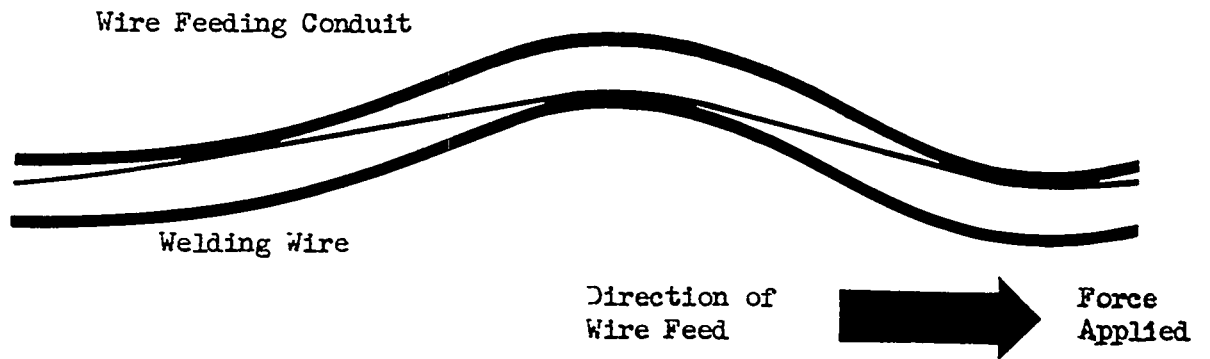

FIGURE 2
- (2) Pull Only Wire Feed System - Figure 2. These units pull the wire off a spool, through a feed conduit, and then push it through a very short gun tube. The major advantage of this system is that the axial load on the wire is a tensile rather than a compressive load as in a push only system. The wire pulling mechanism (motor, gear box, and drive rolls) is mounted in